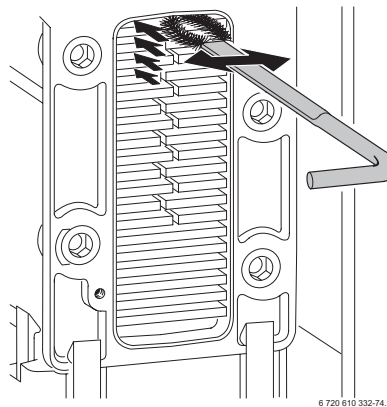

Fig. 51
- Clean the heat exchanger from top to bottom using the brush. Refer to fig. 51.